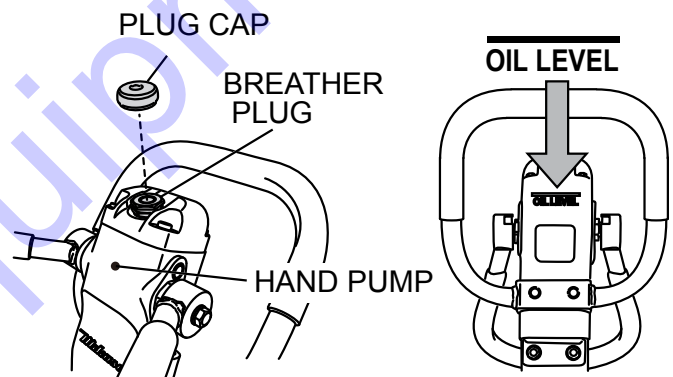

Figure 28. Removing Plug/Breather Cap
- With the handle in vertical position, remove the plug cap from the hydraulic pump (Figure 28).
6. Pour hydraulic oil (300 cc) to the hydraulic pump breather plug attachment hole (Figure 28).